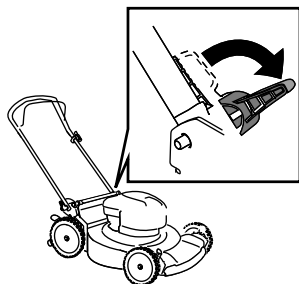

Figure 15
3. Disengage the handle locks (Figure 15).